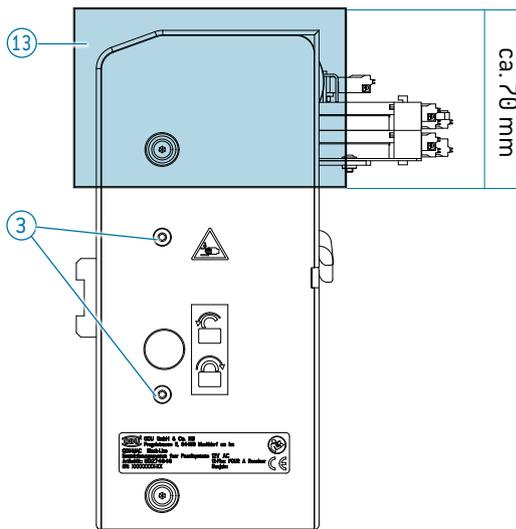

Fig. 197
► If this is not possible, it must at least be ensured that the screws ① on the cover and the marked area ⑬ are accessible. [Fig.197]